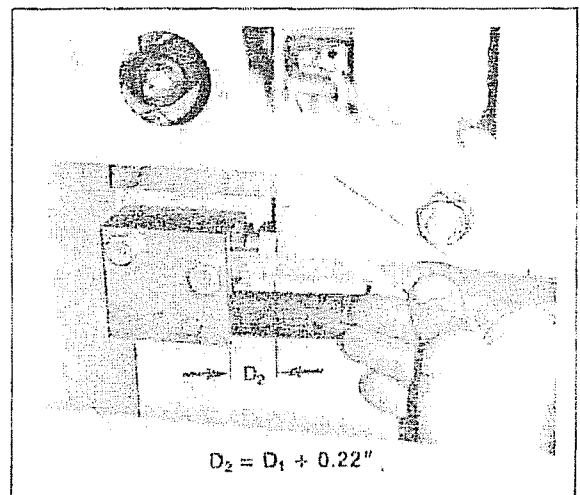

Figure 29
6. Coat the threads of the stop screw and locking nut with Loctite. Install the screw and locking nut so that the distance from the stop block surface to the top of the screw head is $D_2 = D_1 + 0.22"$ (5.5 mm). Secure the locking nut. See Figure 29.